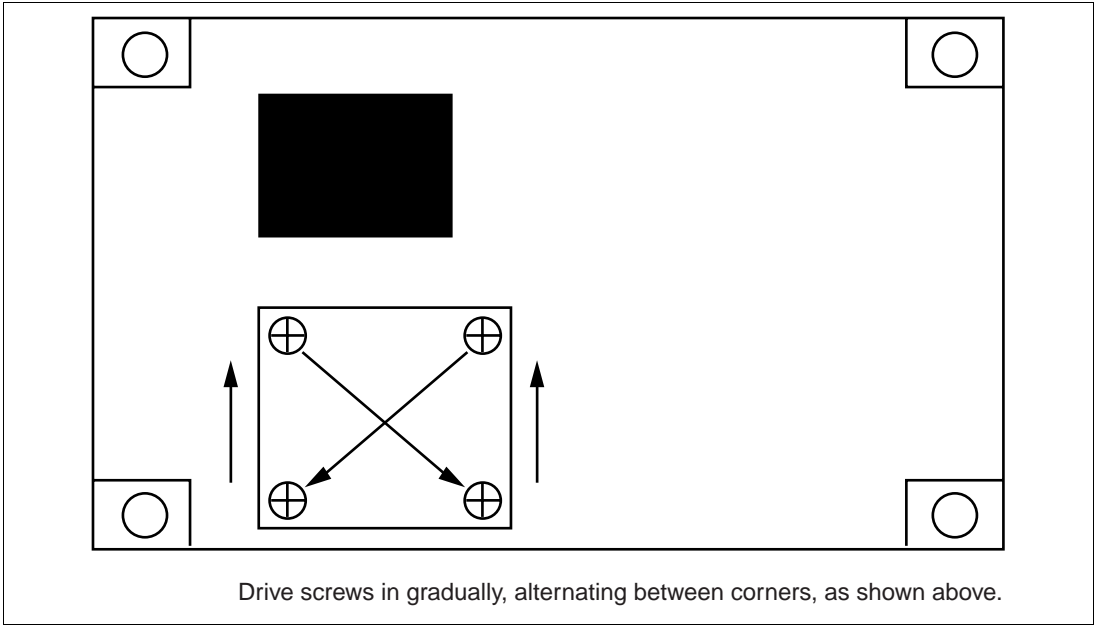

Figure C.2 Order of Tightening the Screws (Top View of the HS7729REBH81H Board)
- (c) Use four screws (M2 × 10 mm) to fix the IC socket on the HS7729REBH81H board to the IC socket on the user system. Drive each of the four screws gradually, tightening each diagonally opposite pair in turn as shown. Do not concentrate pressure on a single screw as this will cause a contact failure or otherwise degraded performance. Hold the IC socket in place by hand to prevent the application of pressure due to the force of rotation (see figure C.2, Order of Tightening the Screws).